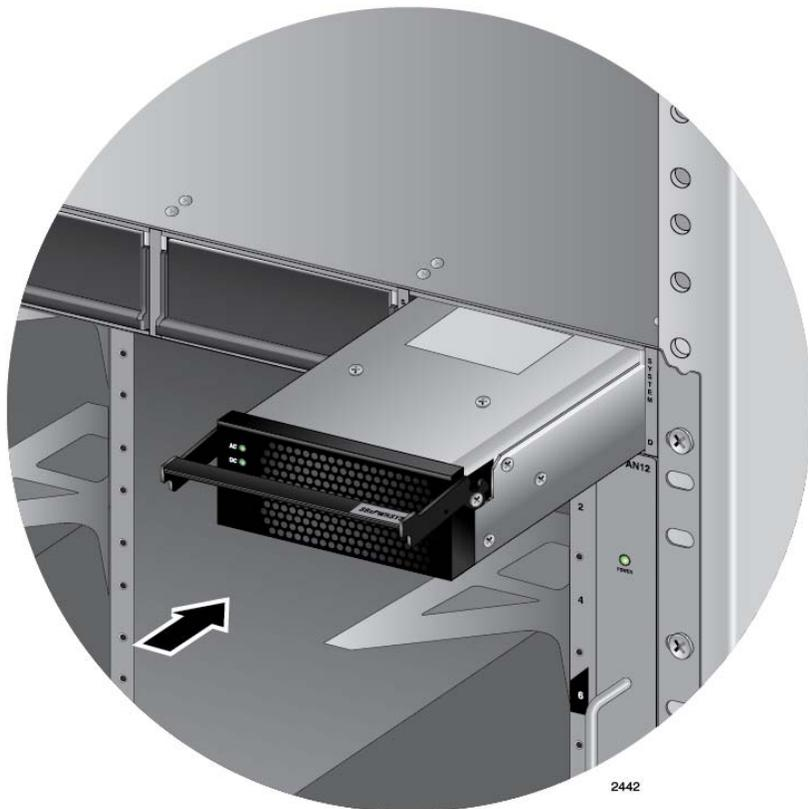

Figure 50. Inserting the AT-SBxPWRSYS1 or AT-SBxPWRSYS2 AC System Power Supply
5. Align and insert the power supply into the power supply slot. Figure 50 shows the power supply installed in slot D.